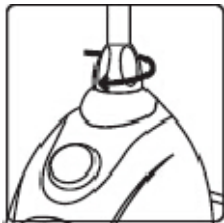

fig.5
3. Insert the pole and tighten the pole's fastening lock by turning in a clockwise direction until the fastener is securely in place. (fig.5)